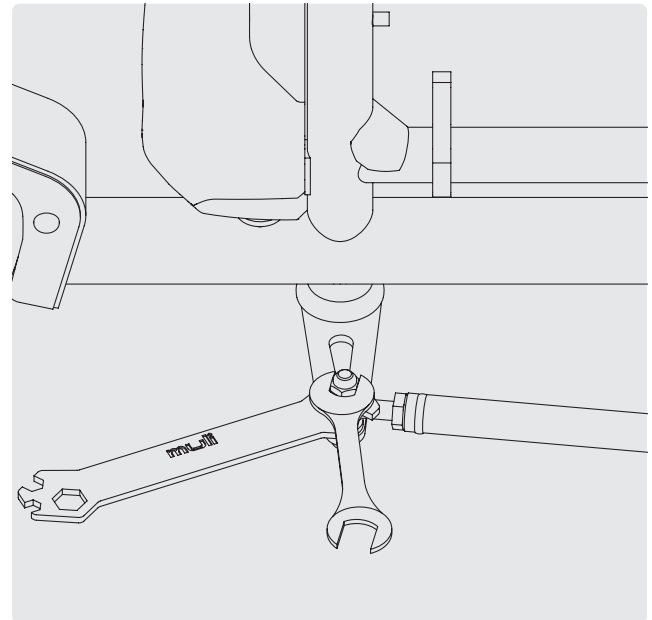

FIG. 12
- 4 Hold the counter nut with a flat open-end spanner and tighten the self-locking nut with a second open-end spanner with a torque of 20 NM on the counter nut (Fig. 12).